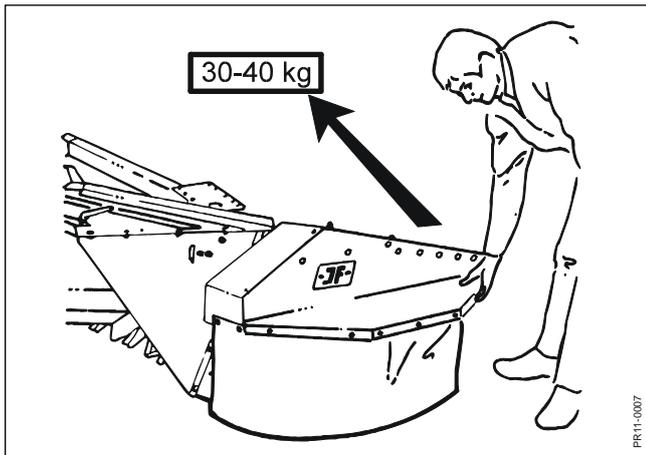

Fig. 3-2
- Fig. 3-2:** The ground pressure of the machine must be 30 - 40 kg in the right side.